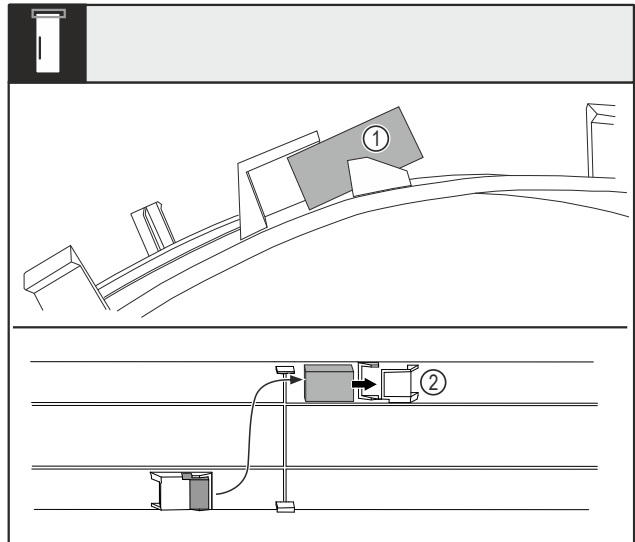

Fig. 15
- ▶ Bend the cover and pull the door magnet Fig. 15 (1) out of the retaining clip.
- ▶ Insert the door magnet into the other retaining clip Fig. 15 (2).